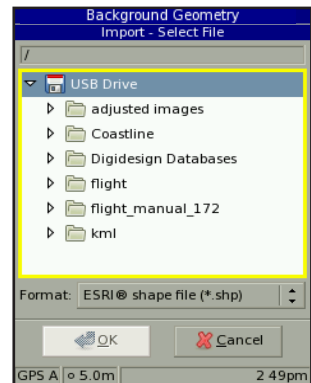

fig 8.2 File browser
2. Select **'Import'**, then **'USB'**. Use the file browser (fig 8.2) to select desired file (ensure you have correct file type under **'Format'** at bottom – .SHP or .KML). Press **ENT**. This will open a browser box showing all shapes within the file.